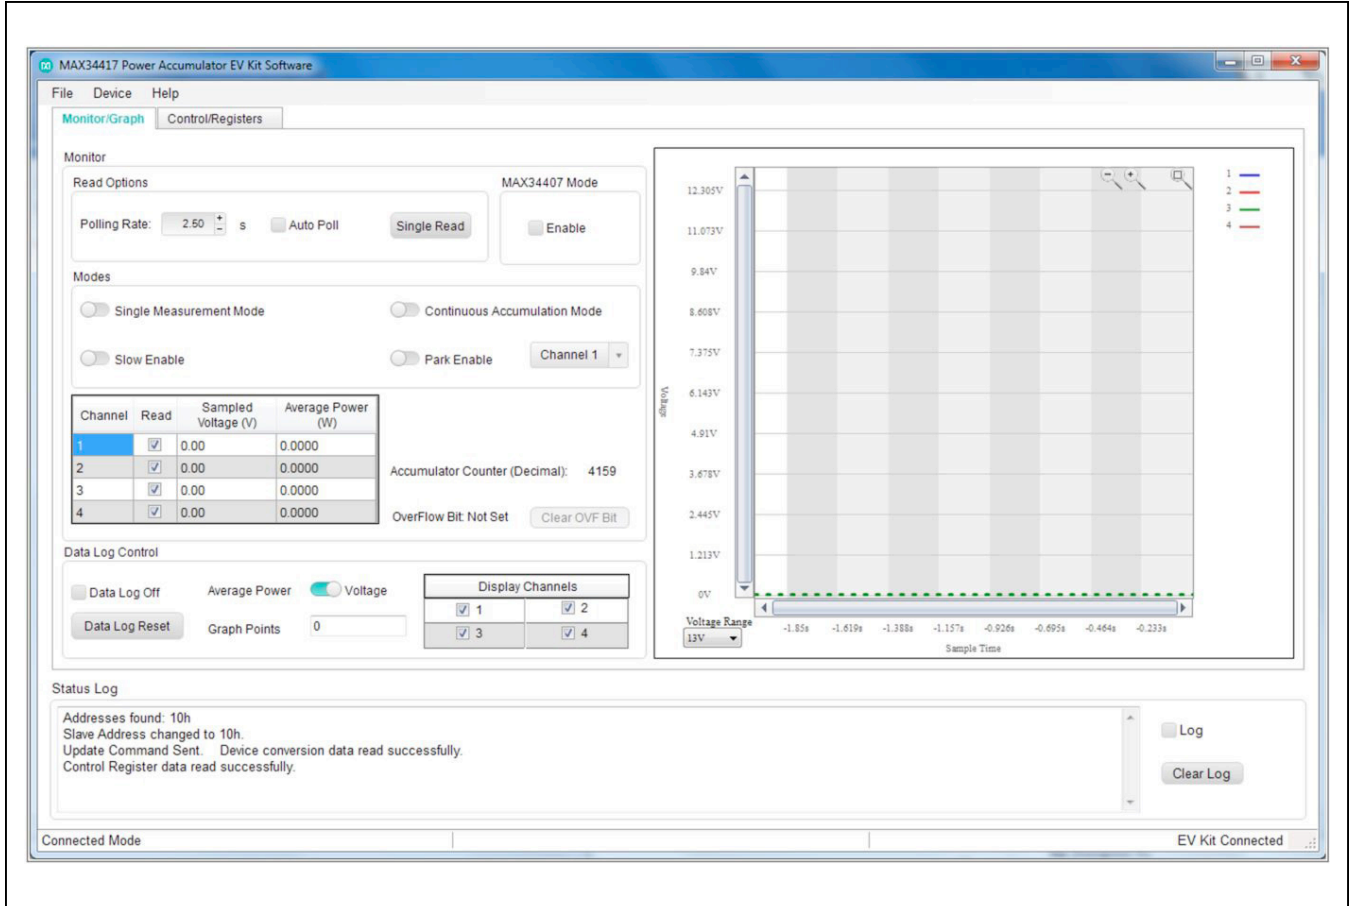
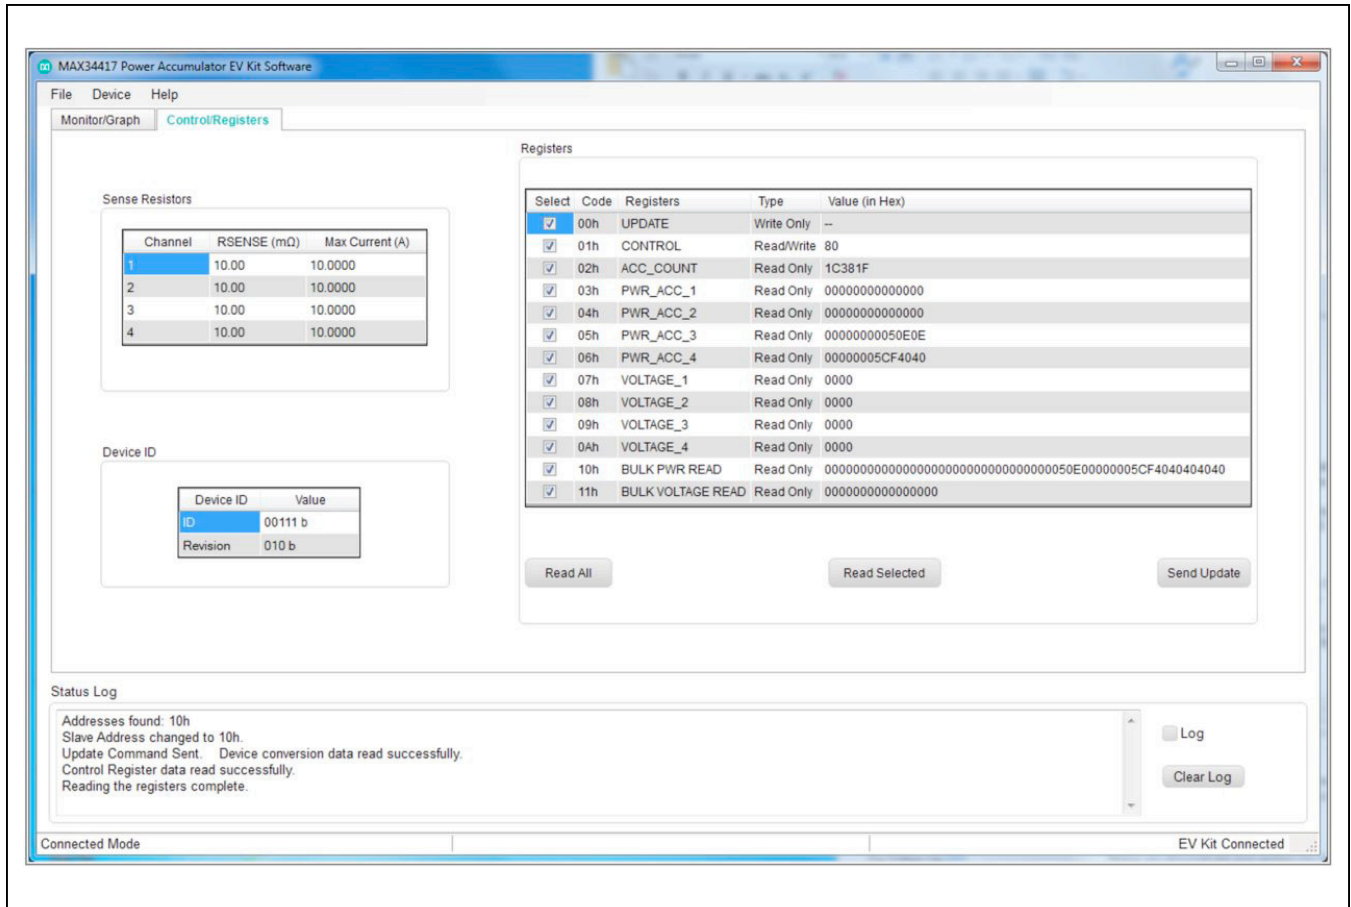

Figure 1. MAX34417EV Kit Software—Monitor/Graph Tab
Figure 2. MAX34417EV Kit Software—Control/Registers Tab
The **Monitor/Graph** tab (Figure 1) displays all the accumulator values. In the **Monitor** group box table, the **Polled** values are the Accumulator values read from PWR_ACC_1 to PWR_ACC_4 that are converted to amps using the **RSENSE** value in the **Sense Resistors** table on **Control/Registers** tab of the GUI (Figure 2). The **Sampled Voltage** and **Average Power** columns track the voltage and average power of the **Polled** value for each channel. All values on the tab are read when the tab is selected or when the **Read** button is clicked. The **OC** status bits are cleared after every read. Check the **Auto Poll** checkbox to continuously read with the **Polling Rate**.
The **Control/Registers** tab (Figure 2) displays all the SMBus commands and their current values. In the **Control** group box table, the **RSENSE (mΩ)** column is the value of the resistor (R3X–R4X) between IN_P and IN_N signals. The **Max Current (A)** column displays the maximum current threshold converted to amps using the **RSENSE** value.